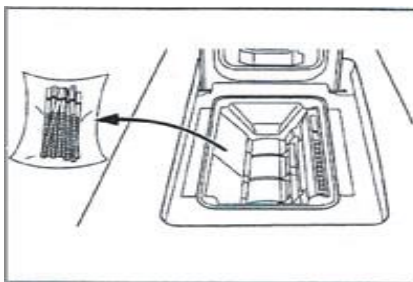

Figure 5-11
- 2) Remove test strips from strip feeder (Figure 5-11).